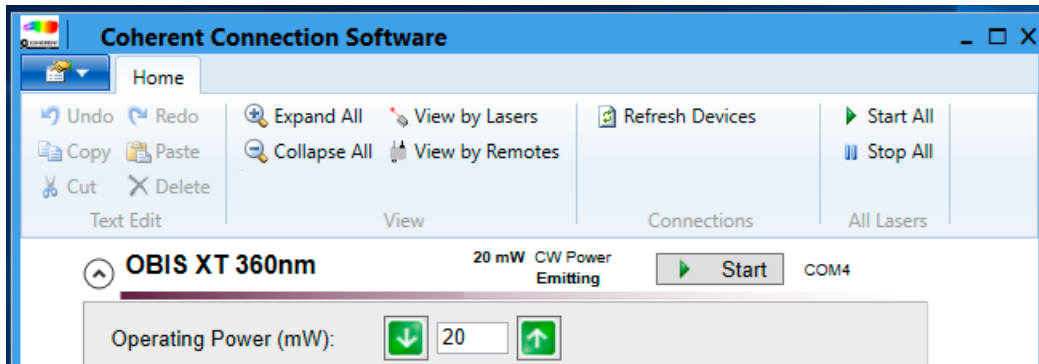

Figure 4-26. Example—CW Mode Emitting
The example in Figure 4-26 shows a laser operating in Continuous Wave (CW) mode. Click the Start button and the laser immediately begins emitting (unless the laser is configured with a CDRH delay).